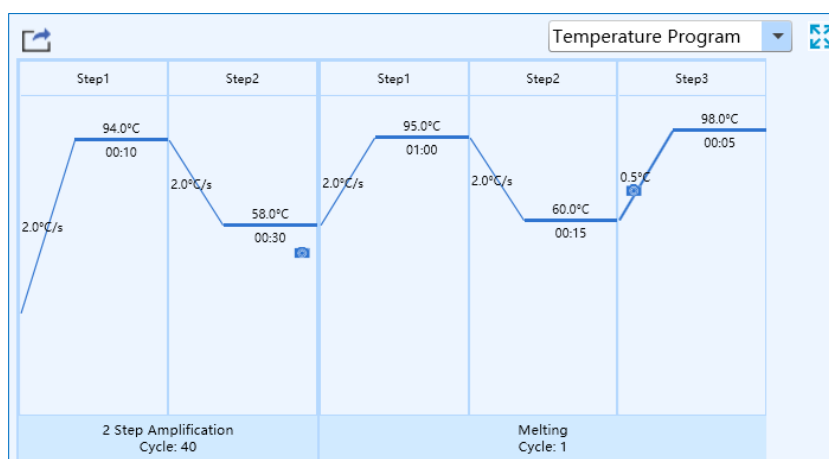

Figure D-7.2. Run Monitoring Interface - Temperature Program Function Module
2. **Temperature Program**: display the temperature program of the current running experiment, as shown in figure D-7.2.